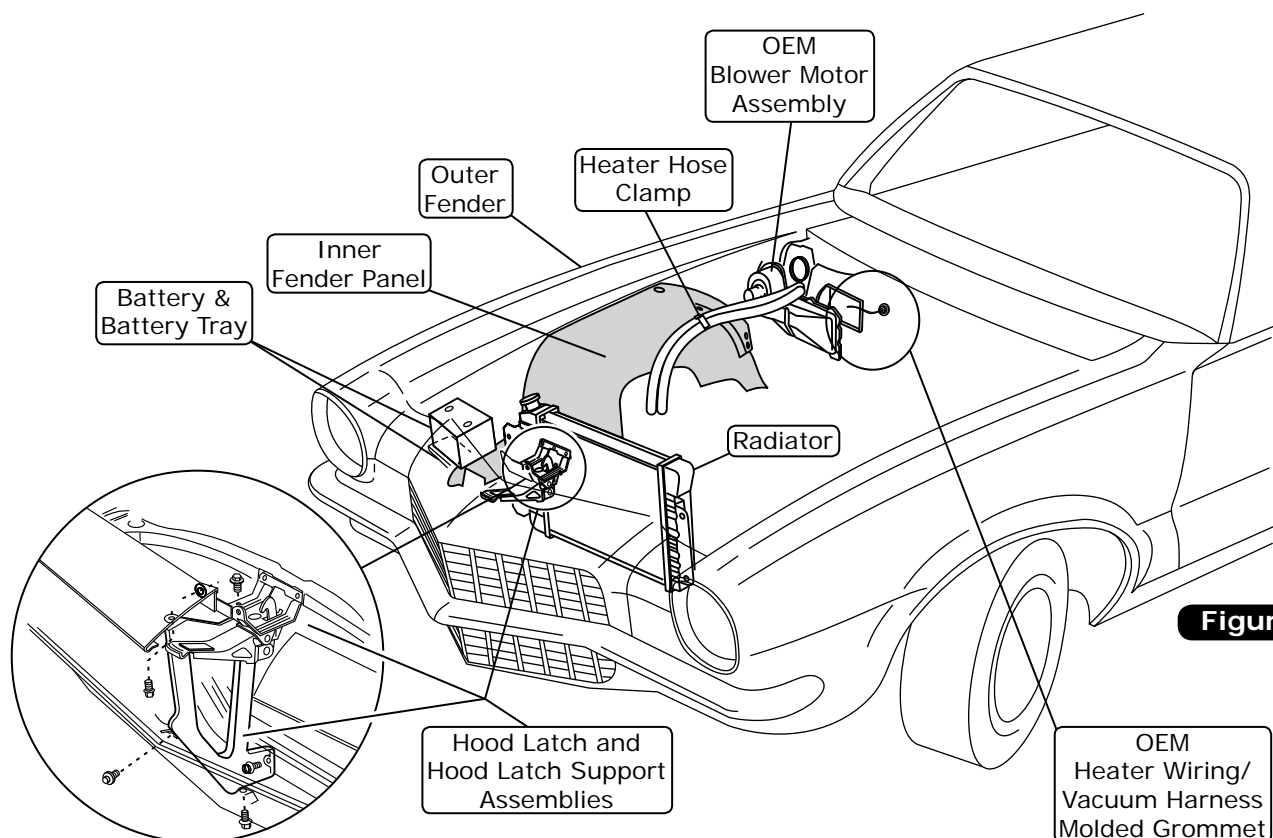

Figure 1
2. Remove the battery and the battery tray (retain) (See Figure 1, below).
4. Remove the hood latch and hood latch support assemblies (retain) (See Figure 1, below).
5. Remove the OEM blower motor assembly (discard). **NOTE: To remove the blower motor assembly (under hood) and the air distribution system (under dash), remove the inner fender panel (See Figure 1, below).**
7. Remove OEM heater wiring/vacuum harness molded grommet (See Figure 1, below).